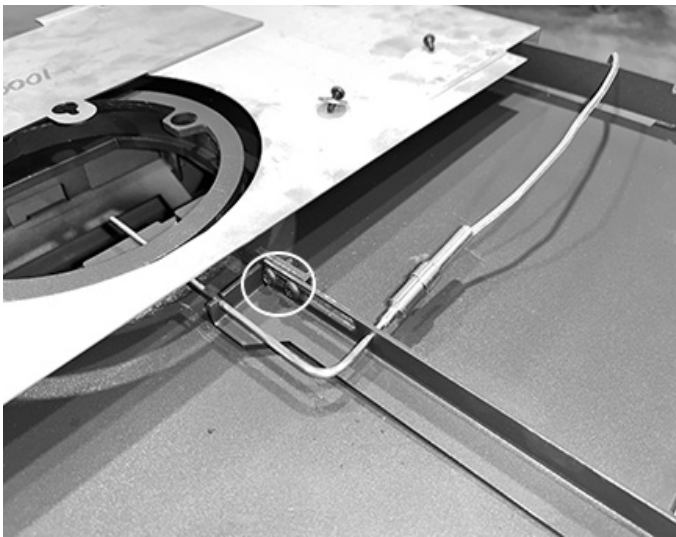

Figure 13: Flue Thermocouple guide.
6. Undo the two screws holding the flue thermocouple guide to the mounting bracket. Figure 13